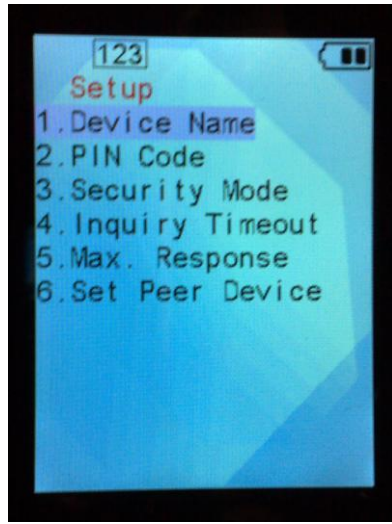

Figure 6-2
2. Select 5.Bluetooth -> 1.Setup, it will enter Bluetooth setting menu like Figure 6-2